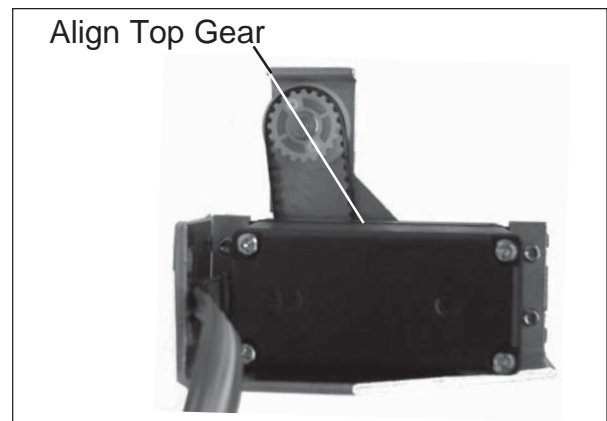

Figure 3-18. Top Gear Alignment.
4. Refer to Figure 3-18, rotate the Top Gear until it is in the position as shown while holding the Motor in place.
6. Refer to Figure 3-18 and recheck the Top Gear alignment. The Gear must be turned fully counter-clockwise. This is necessary to engage the InCal mechanism properly.
4. Refer to Figure 3-18 and make sure the Top Gear is properly aligned when the Gear is turned fully counter-clockwise.